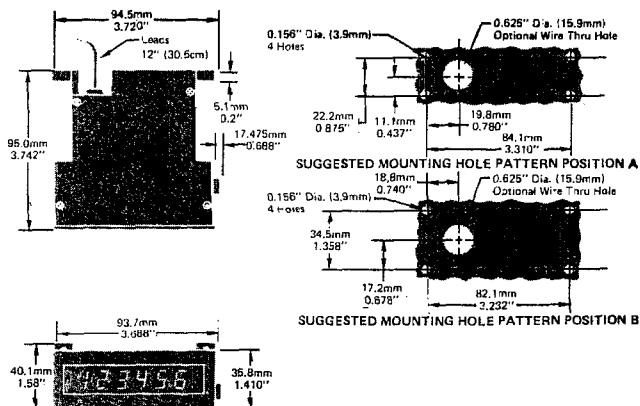

Figure 2. Mounting Dimensions.
**Mounting:** Base mount versions standard. See Figure 2. Accessory panel mount kits available.
**D. BASE MOUNT INSTRUCTIONS.** Select the mounting position per Figure 2. Drill mounting screw holes and secure counter to mounting surface with No. 6 screws. Route wire leads through the channel provided. Do not pinch leads between the counter's base and mounting surface.